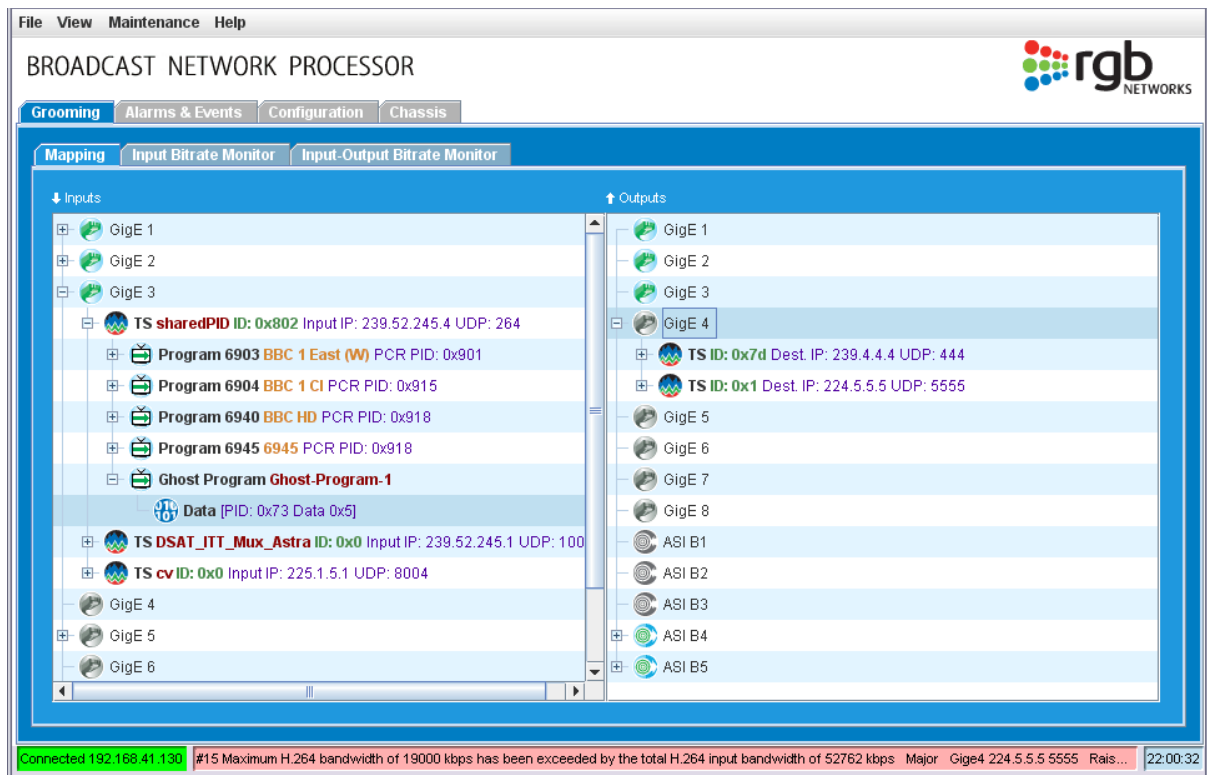

Figure 174. Starting Unreferenced PID Mapping
We start with a window as shown in Figure 174.
3. Drag the Ghost Program from the input of Figure 174 and drop it on the DVB transport stream you just created. The **Configure Program Mapping** window (Figure 176) appears.